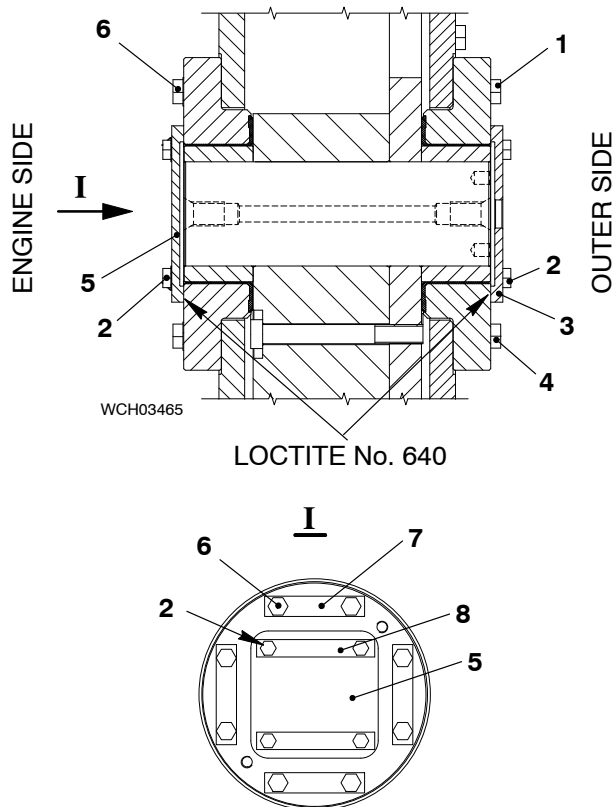

Fig. 18
- 1) Attach the eight M20x70 bolts (1, Fig. 18) to the outer side of each bearing.
- 2) Torque the eight M20x70 bolts (1) to the value given in 0352-2, paragraph 1.
- 3) Apply Loctite No. 640 to the surfaces that touch on the bearing cover (3).
- 4) Attach the bearing cover (3) to the bearing with the four M16x35 screws (3).
- 5) Torque the four M16x35 (3) to the value given in 0352-2, paragraph 1.
- 6) Attach the locking plates (7) to the engine side of each bearing with the eight M20x70 bolts (6).
- 7) Torque the eight M20x70 bolts (6) to the value given in 0352-2, paragraph 1.
- 9) Apply Loctite No. 640 to the surfaces that touch on the bearing cover (2).
- 10) Attach the bearing cover (5) to the bearing on the engine side with the four M16x35 screws (2).
- 11) Torque the four M16x35 screws (2) to the value given in 0352-2, paragraph 1.